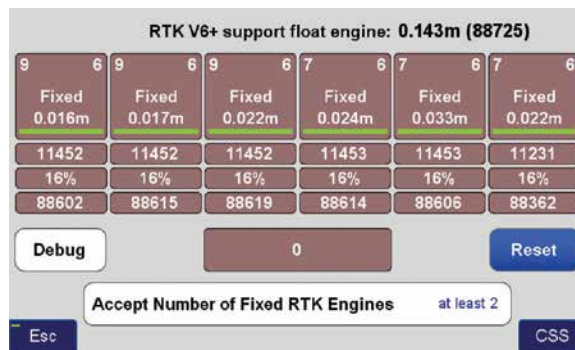

Figure 1 V6+ six RTK Engines
**J-Field** uses six RTK engines (Figure 1) running in parallel plus a support engine to monitor and aid the six engines. Each engine uses a different criteria and mathematical method tailored to resolve ambiguities in different conditions. These six parallel engines not only verify robust solutions but also maximize the possibility of providing solutions in all conditions.
V6-RTK engines screen (Figure 1), or assign this reset function to any one of the U1 to U4 hardware buttons in front of the TRIUMPH-LS for easy access.